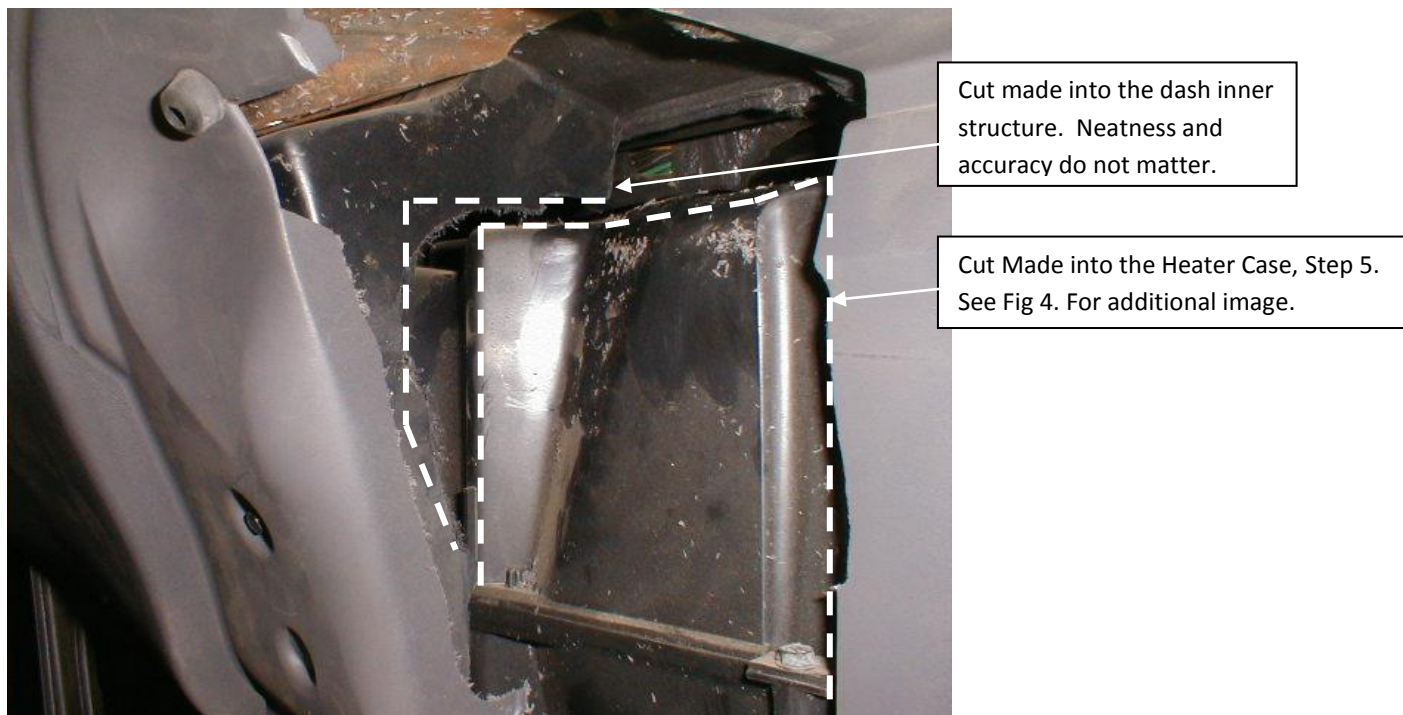

Fig. 3
4. Make the cut into the dash inner structure, using Fig. 3 as a reference.